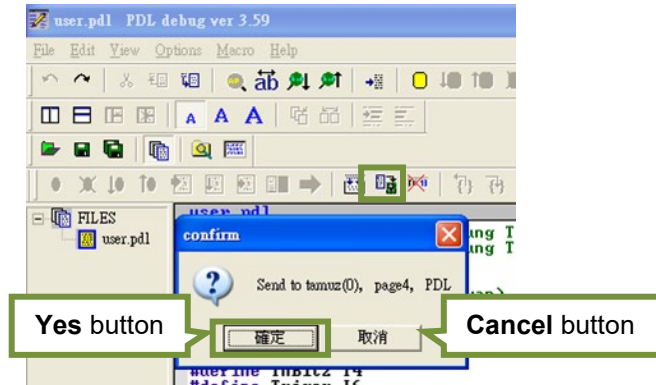
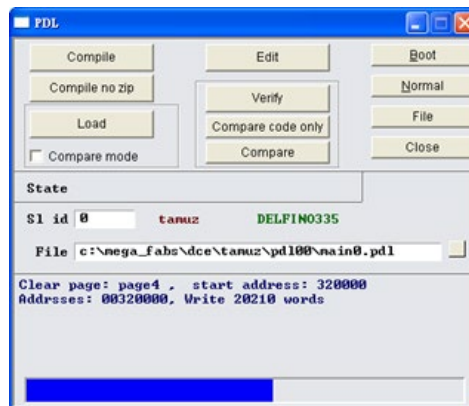

Figure14.2.5
Figure14.2.6
Step 4: Click on  (Send to slave) after compilation finishes. Click on **Yes** button when the dialog shown in figure 14.2.5 appears. Then a window with progress bar appears and closes as PDL program is loaded, as figure 14.2.6.